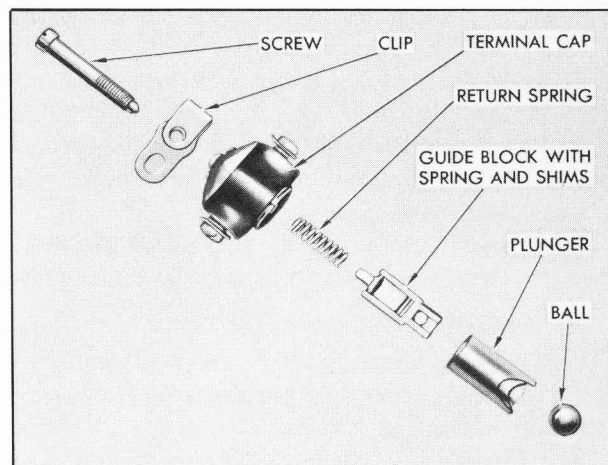

Figure 3-51—Vacuum Switch Parts
19. Hold down on vacuum switch terminal cap while removing hold-down clip. Remove terminal cap and switch return spring, then lift out switch guide block with contact spring and shims. Do not lose timing shims and the spring washer on contact spring. Turn body flange over to allow plunger and ball to drop into hand. See figure 3-51.
7. Make sure that vacuum switch contact spring is assembled in guide block with the original number of timing shims and that return spring washer is on contact spring. See figure 3-51.